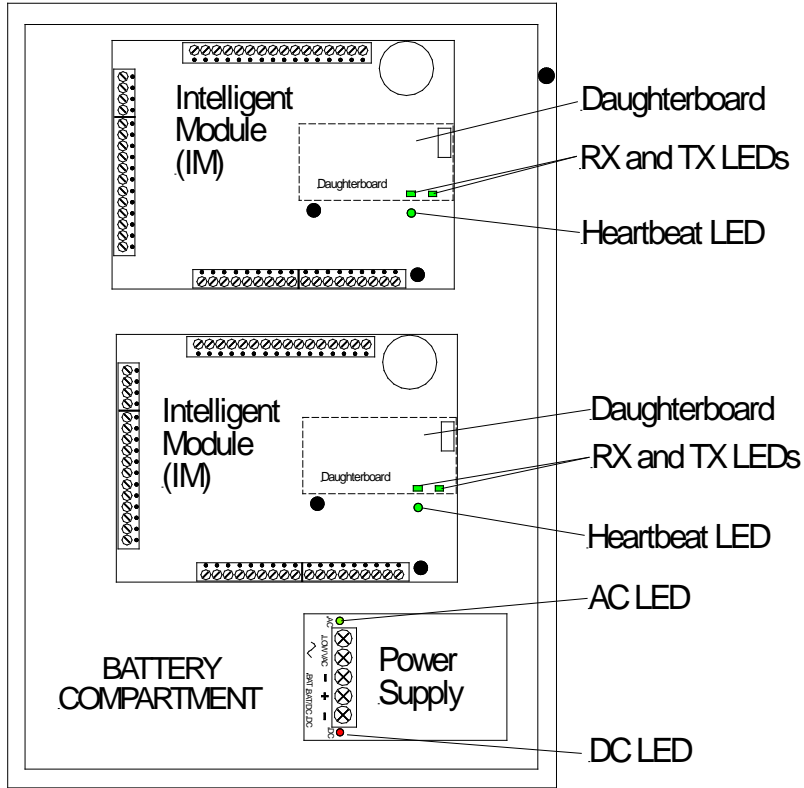

Figure 3-2. Contents of a Dual-Module Enclosure
- A Dual-Module Enclosure (12" x 18" x 4") that can house two Intelligent Modules, a 12V 2.5A power supply, and the backup battery (see Figure 3-2)